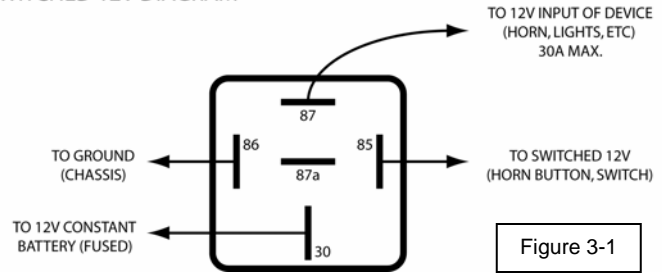

Figure 3-1
8. Replace Factory Horn Relay (Figure 3-1)